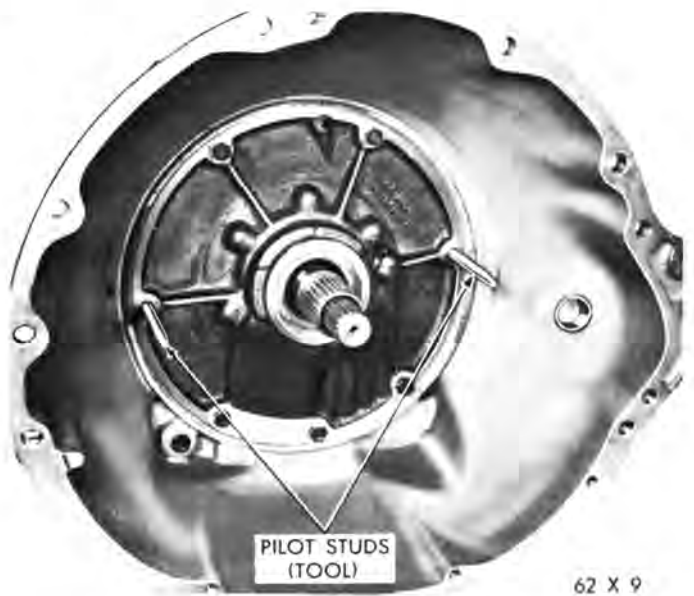

Fig. 115—Installing Front Pump and Reaction Shaft Support Assembly
(1) Screw to pilot studs, Tool C-3288 in the front oil pump opening in the case (Fig. 115). Install a new gasket over the pilot studs.
(2) Place a new rubber seal ring in the groove on the outer flange of the oil pump housing. Make sure the seal ring is not twisted. Coat the seal ring with grease for easy installation.
(3) Insert aligning Tool C-3756 (A-904-G and A-904-LA) or C-3881 (A-727-A and B) through the pump body and engage the inner rotor.